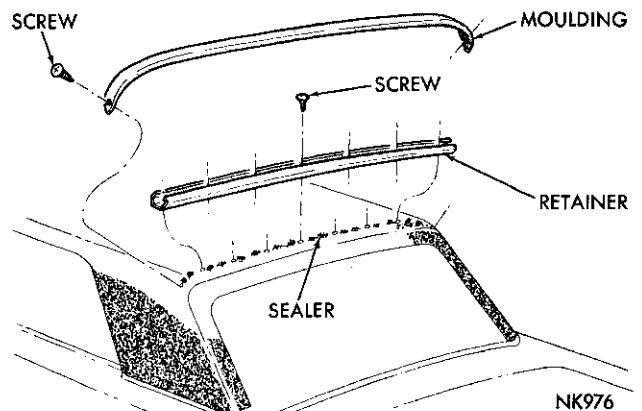

Fig. 168—Rear Bow Moulding and Retainer
(8) Remove the screws from the ends of the moulding on the rear boss (Fig. 168).